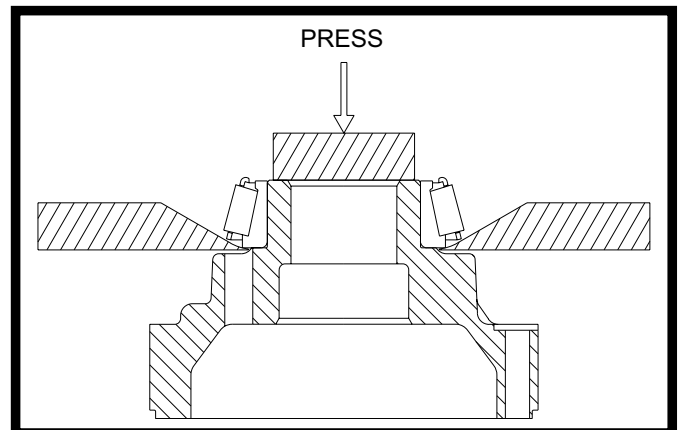

Fig 33
- Place the rear differential case half assembly in a press such that the bearing cone is supported by a bearing separator plate. See Figure 33. Press the bearing cone assembly from the case.